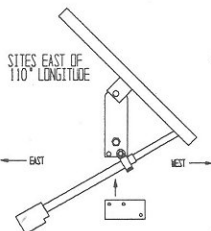

Figure 7.
STEP 7 Installation of the #7 actuator bar is recommended on Antennas for areas within 10° East or West of the 110° longitude line to give the actuator a better mechanical advantage. Installation of the #7 actuator bar outside this area is not required for proper system operation. The proper actuator bar positioning must be obtained so that the antenna will track the entire arc of satellites. To find that position, you must first locate your latitude and longitude on a map. Refer to Chart 1. Add the actuator bar as per Figure 7 or 8, which shows the proper alignment for your location. Secure the actuator bar with (2) $\frac{1}{2}$ "x1 $\frac{1}{2}$ " bolts and locknuts. Now you may install your actuator or hand crank. **TIGHTEN ALL BOLTS WITH A WRENCH.** The #7 actuator bar is not supplied with the 6 or 7 Plus. Attach the actuator directly to the correct side of the elevation U-bracket as shown.